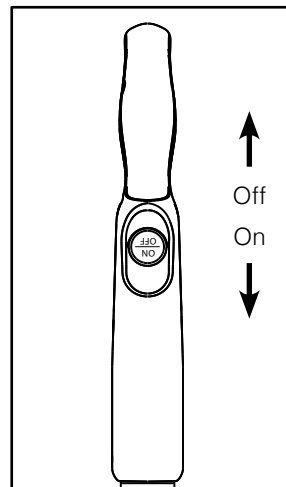

Fig. 3
- To turn the vacuum cleaner on, press the On / Off Switch located on the handle to the "On" position (Fig. 3).